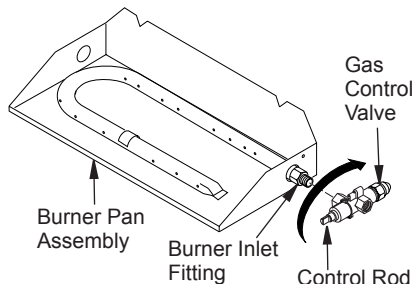

Figure 10 - Installing Gas Control Valve
- Thread the gas control valve onto the burner inlet fitting (see Figure 10). Use thread sealant on the male threads of the burner inlet fitting. Hold the burner inlet fitting with a wrench to prevent overtightening the connection to the burner. Make sure the control rod is facing the front (see Figure 10).